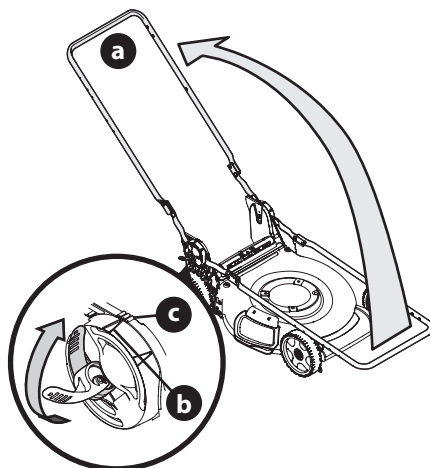

Figure 9
5. While stabilizing mower so it doesn't move, lift the upper handle up (a) (Figure 9). Do not crimp blade control cable while lifting the handle up.
6. When lifting the upper handle ensure the position indicator (b) aligns with one of three handle positions (c). See inset, Figure 9.
7. Lock the two handle release levers. See inset, Figure 9.